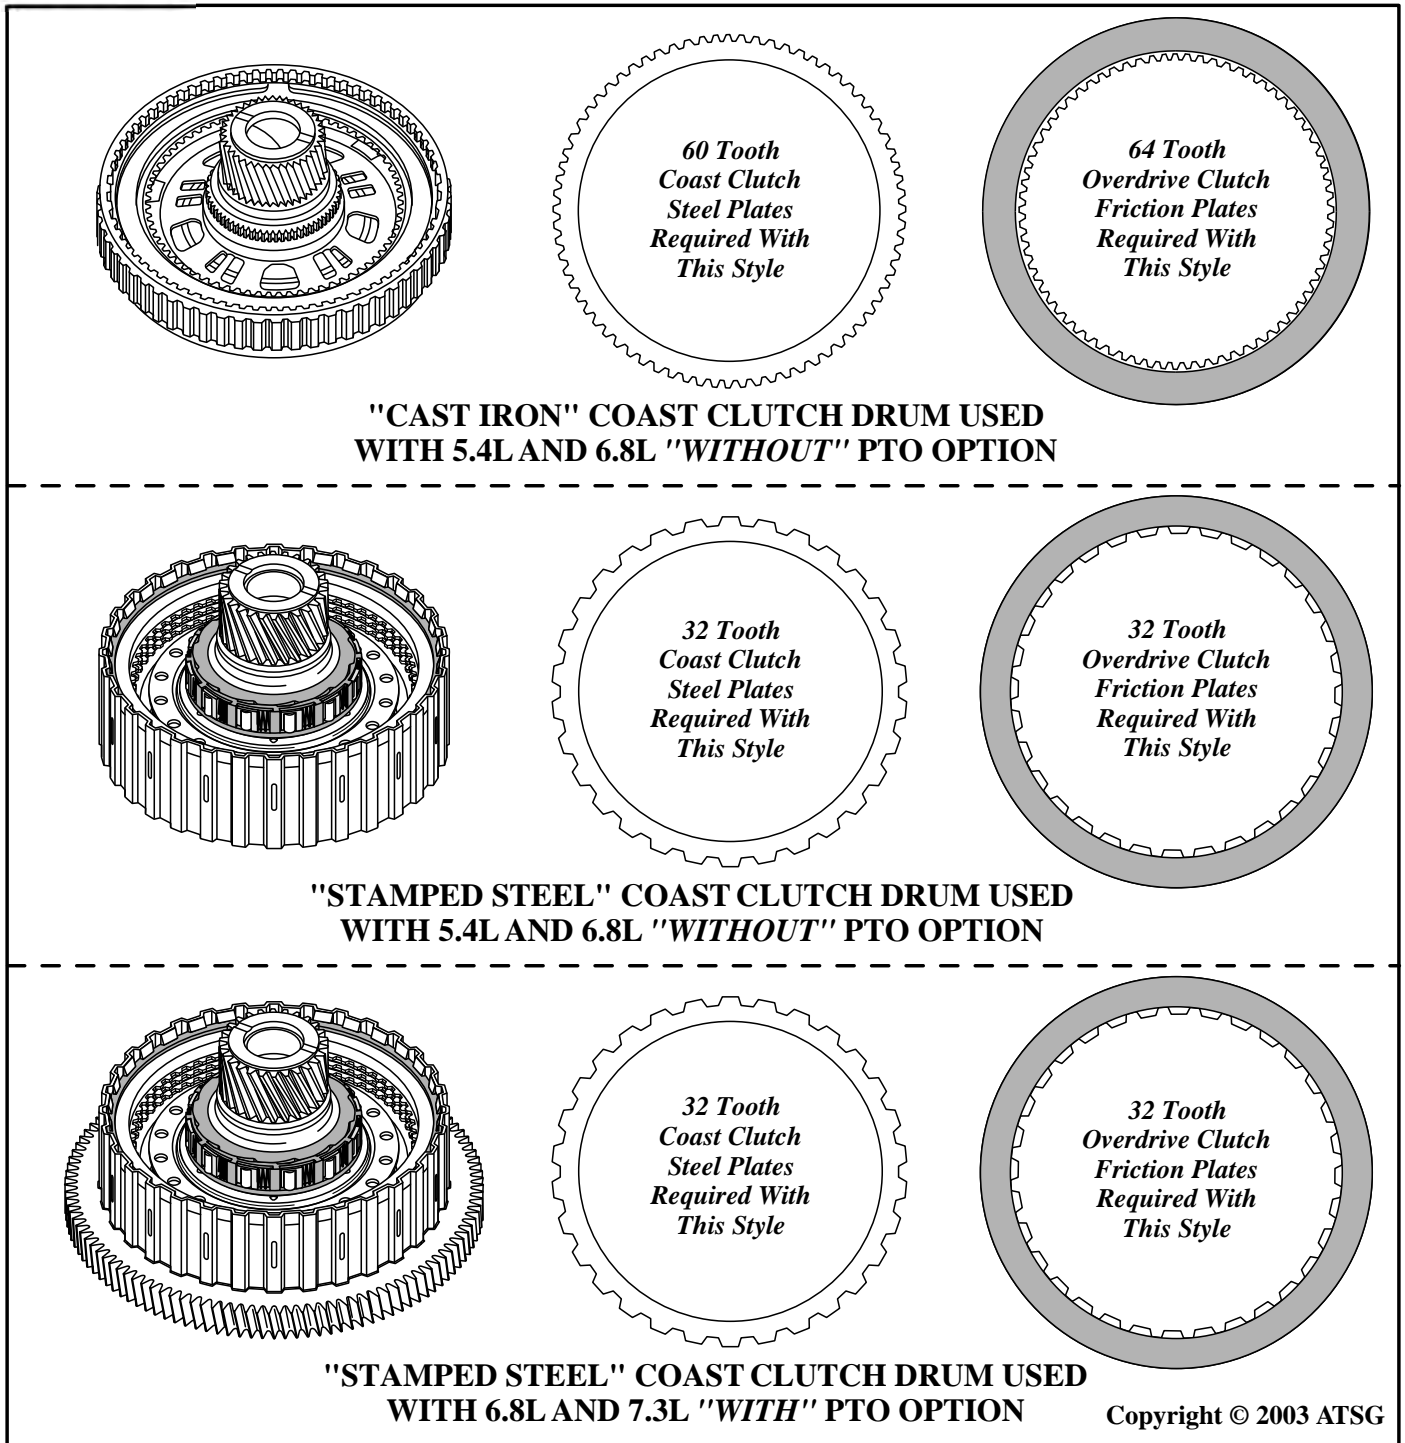

Figure 148
1. Disassemble the coast clutch housing using Figures 148 and 149 as a guide.
Note: Figure 148 illustrates the 3 different coast clutch housings available in 4R100 transmissions. The procedures for rebuild are very similar. We will be illustrating the "PTO" version.